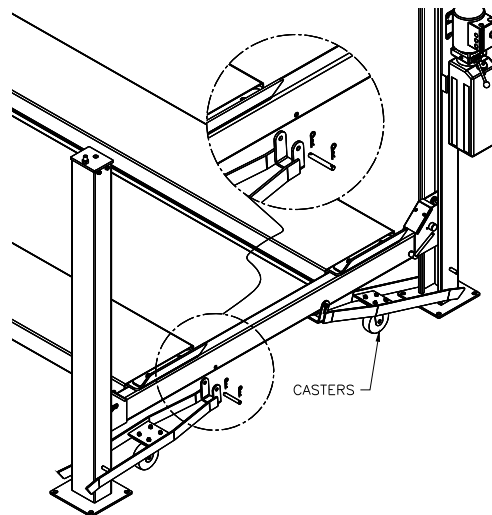

Fig 22– Mobility Kit
- 1) This set of four casters when attached to the cross beams of an unloaded lift, **Fig 22**, pick the lift up and allow it to be rolled to a different location.